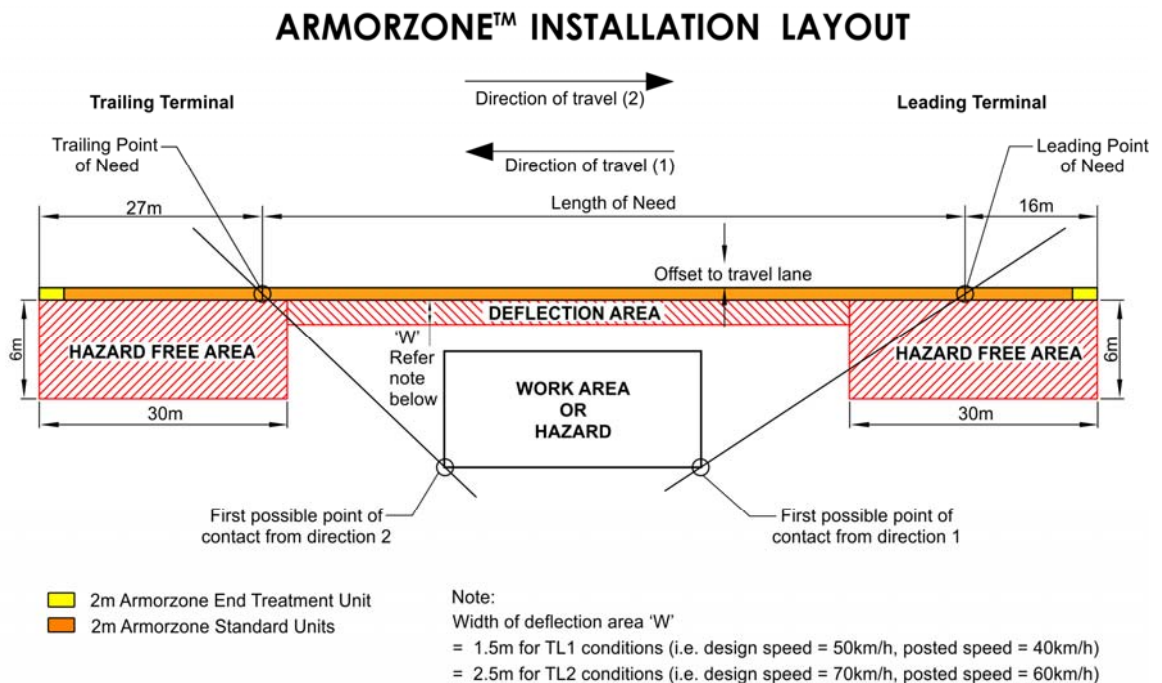

Figure 3: ArmorZone Layout Diagram
- Plant, personnel or roadside hazards should not be located within the hazard free and deflection area as shown in Figure 3.